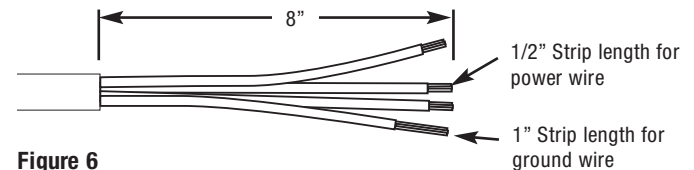

Figure 6
2. Strip off outer jacket of cord and insulation from lead wires. Figure 6 provides the strip dimensions.